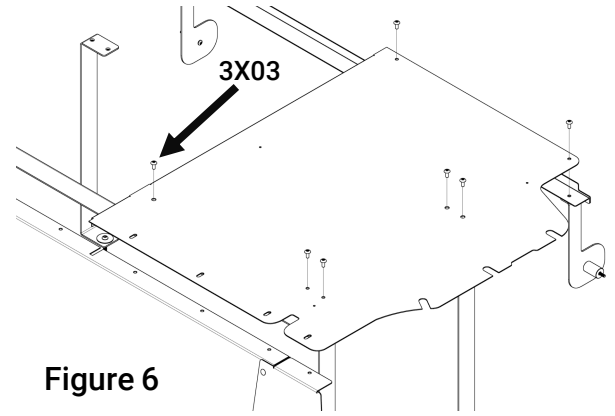

Figure 6
- B. Align the (7) holes in the cargo cover panel with the corresponding holes in the brackets and crossmembers. Use (7) Phillips head screws [3X03] to loosely secure the panel in place (Fig 6). The rearmost inside screw requires (1) whiz nut [3X16] in order to be secured.